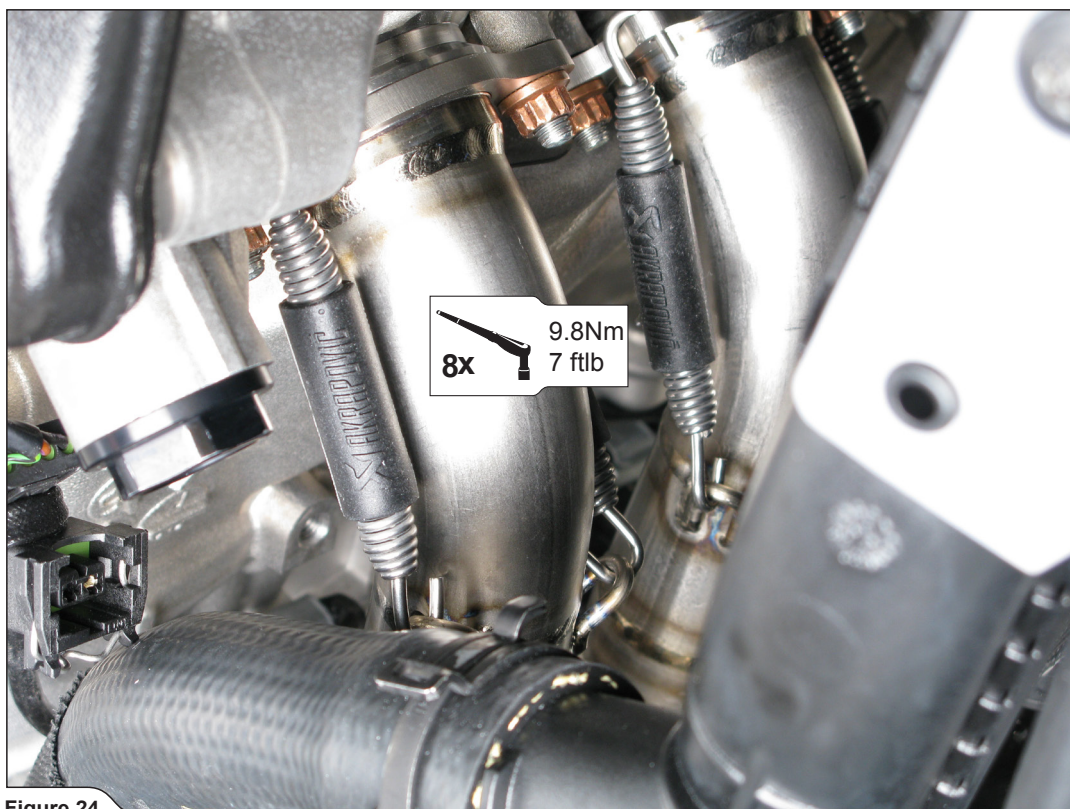

Figure 24
2. Insert the headers into the sleeves, attach the springs and tighten the flanges to specified torque (Figure 24).